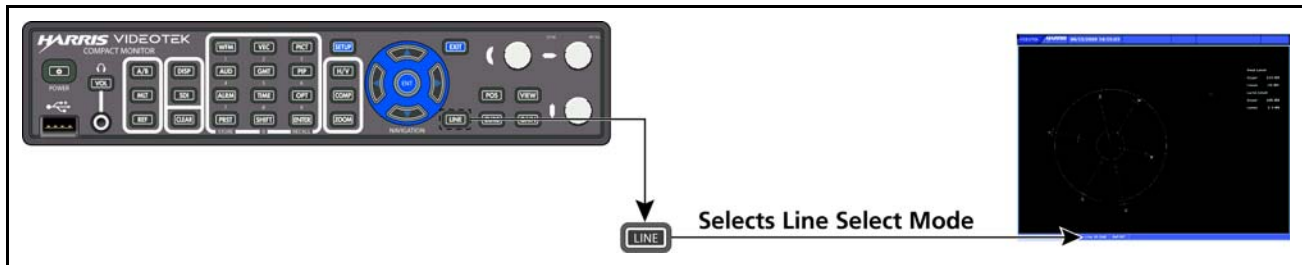

Figure 4-24 Establishing Line Select
- 1 Press the **LINE** button to place the selected Gamut display in Line Select mode. At the bottom of the display, the Line number and Odd or Even field appear, as shown in Figure 4-24.